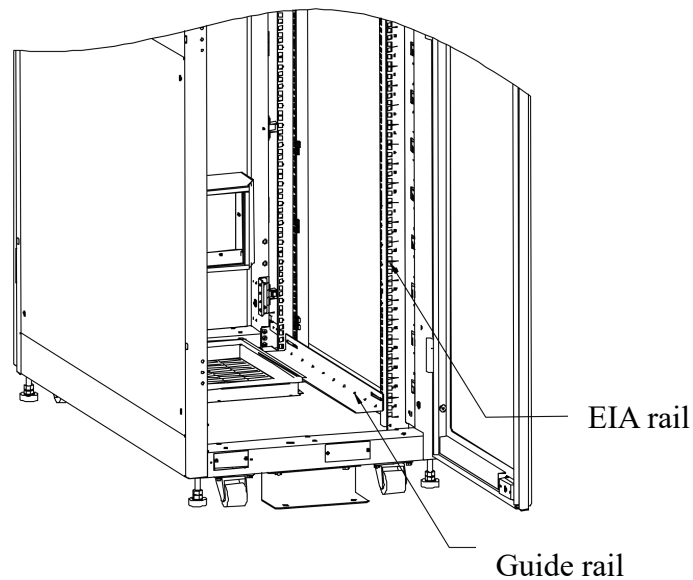

Fig. 3-1 Diagrammatic Sketch of Step 1
1. Install guide rail at the bottom of both sides of the cabinet, and fix the front and rear ends of the guide rail with screws as shown in Fig. 3-1;